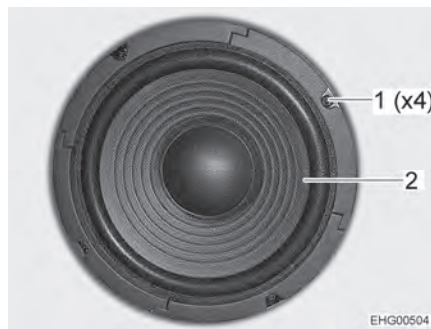

Fig. 108 Loudspeaker on I models
- Unscrew the 4 screws (Fig. 108,1) and carefully remove the loudspeaker (Fig. 108,2).